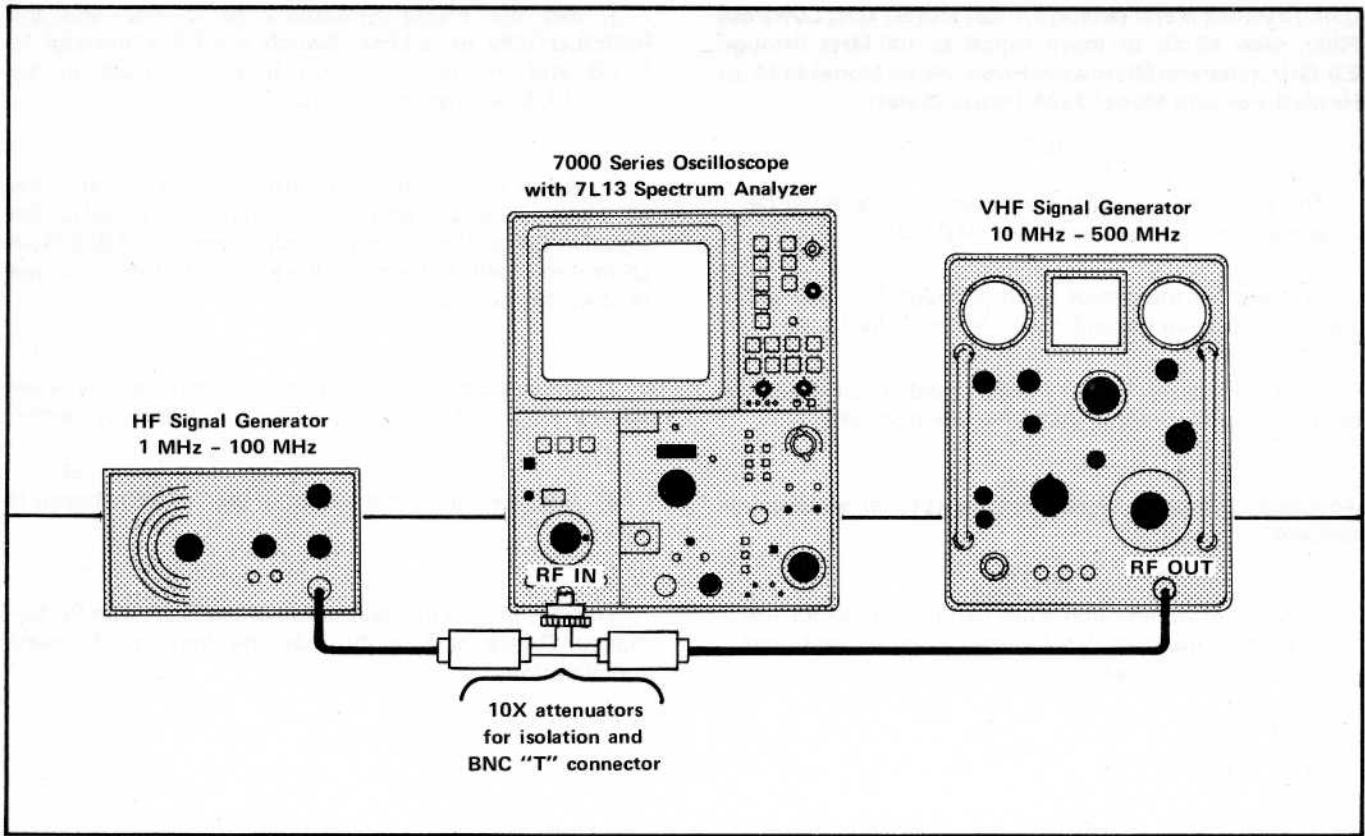

Fig. 4-19. Equipment setup to measure IM distortion.
b. Apply two signals, separated by 1 MHz, from two 50  $\Omega$  signal generators, through 10X attenuators (for isolation) then through a BNC "T" connector to the RF INput. (Fig. 4-19).